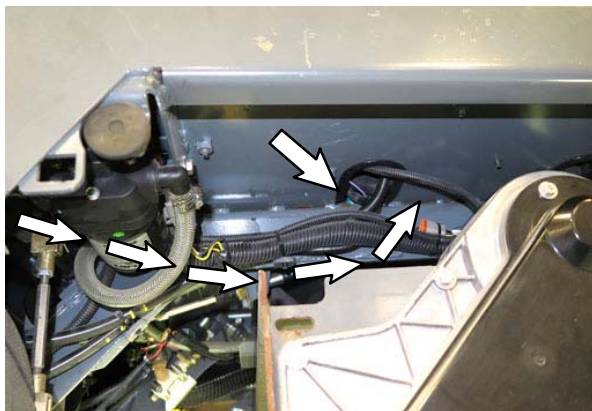

**FIG. 7**
4. Route the battery cable (15) to the shunt (10). (Fig. 7)